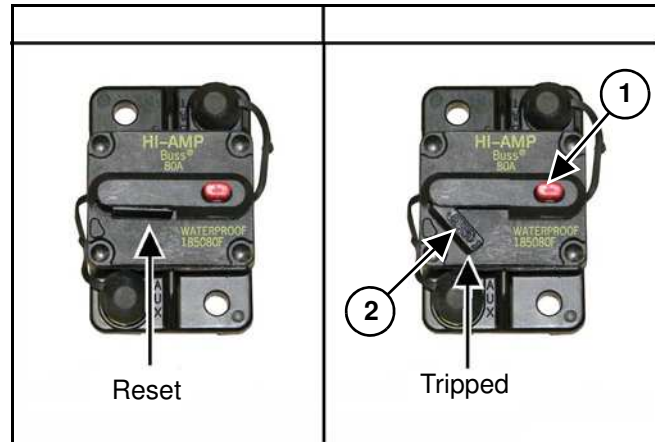

Figure 56
[Figure 56] - A circuit breaker is located near the battery or in the battery box. The 80A circuit breaker is equipped with automatic and manual trip button (1) as well as a manual reset lever (2).